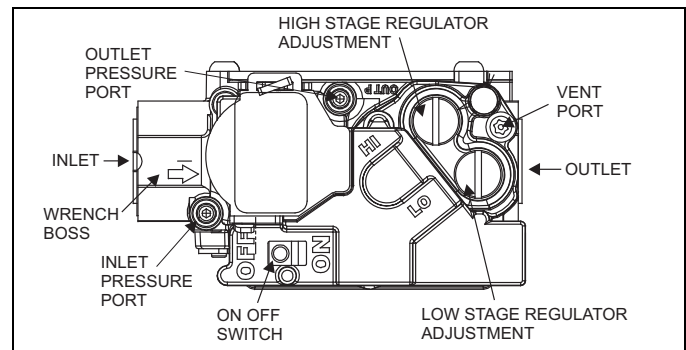

FIGURE 24: Gas Valve
Inlet and manifold gas pressure may be measured by connecting the "U" tube manometer to the gas valve with a piece of tubing. Follow the appropriate section in the instructions below. Refer to Figure 24 for a drawing of the locations of the pressure ports on the gas valve.
1. Refer to Figure 24 for location of pressure regulator adjustment cap and adjustment screws on main gas valve.